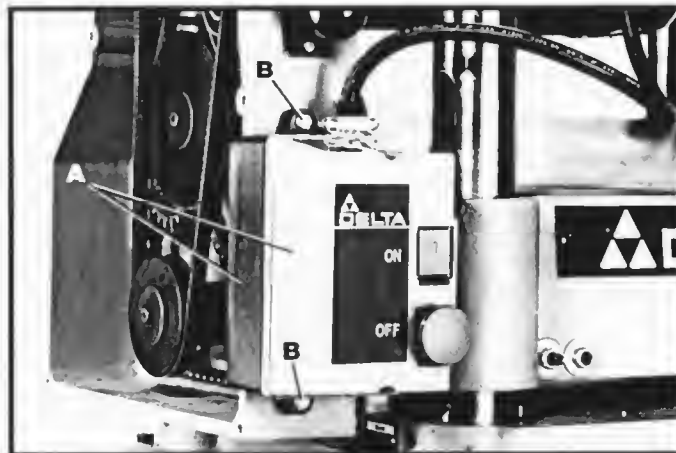

Fig. 14A
1. Assemble switch box (A) Fig. 14A, to front of belt guard using the two 1-1/4" long screws (B), lockwashers, and nuts supplied with the planer.